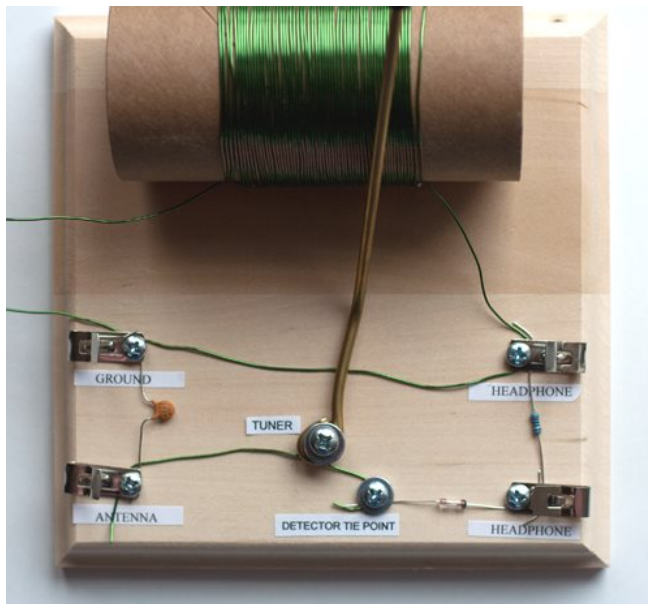
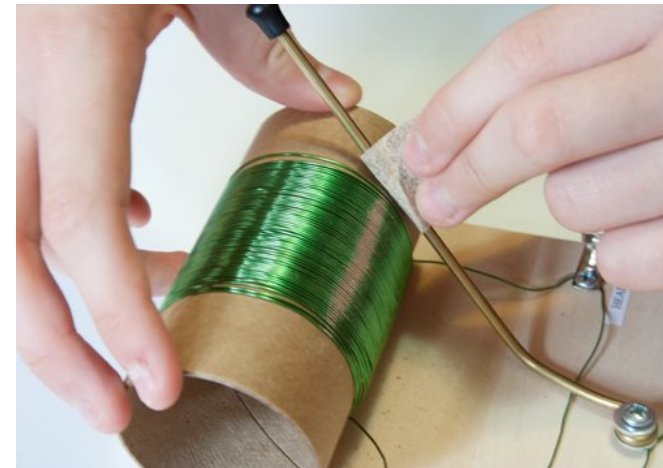

Figure 12. Wrap the capacitor, resistor, and diode leads around the screws under the appropriate clips, as pictured.
Figure 13. The tuning coil, showing exposed copper, after sanding off insulation where the tuning rod contacts it.
- a. Slightly bend the ends of the leads of the capacitor, and loop these around the screws *under* the "GROUND" and "ANTENNA" clips, as shown in Figure 12. The direction of the capacitor does not matter. Tighten the screws to hold the capacitor in place.
- b. Slightly bend the ends of the leads of the resistor, and loop these around the screw *under* the two "HEADPHONE" clips, as shown in Figure 12. The direction of the resistor does not matter. Tighten *only* the top "HEADPHONE" screw to hold the resistor in place for now.
- c. Slightly bend the ends of the leads of the diode, and loop these around the screw *under* the bottom "HEADPHONE" clip and the detector tie point screw, as shown in Figure 12. *Important:* Make sure the black stripe on the diode is facing toward the "HEADPHONE" clip.
- c. Place your sandpaper between the brass rod and the coil wire, and pinch it around the tuning rod, as shown in Figure 13. Move the tuning rod back and forth in order to remove the enamel insulation where it contacts the coil.
- d. When you are done, you should see exposed, shiny copper, which is a different color than the enamel insulation, as shown in Figure 13.
- e. For now, you are done working on the wooden mounting board, and your circuit is complete. Double check that your crystal radio circuit looks like the one shown in Figure 12, and that you have sanded off insulation like in Figure 13. You can use scissors to trim any excess lengths of magnet wire that are dangling off your wooden board, then move on to step 10 to go outside and set up your ground rod and antenna.